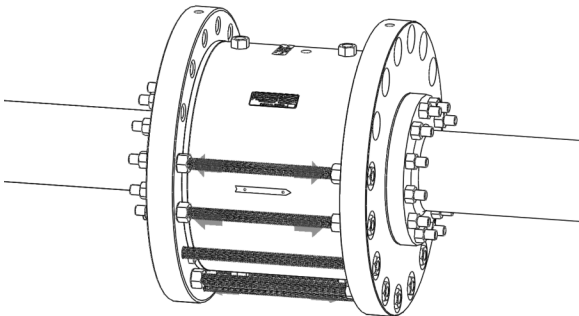

Figure 7 - Jacking nuts flush with line flange face.
3. Turn each jacking nut so that the face of the washer is flush with the face of the line flange as shown in Figure 7 below.